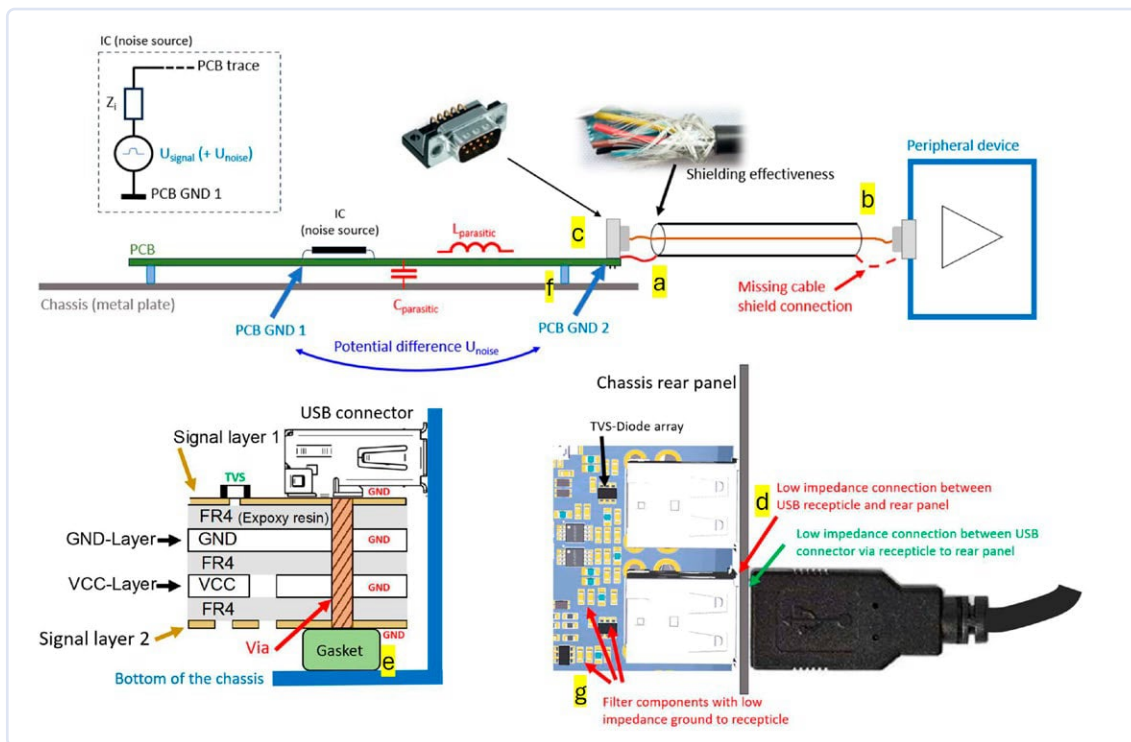

Figure 5: Illustration of the main EMC tasks of an enclosure.
4. **Shielding:** The use of shields or screens around sensitive components or conductor paths can help to contain electromagnetic radiation and reduce interference (Figure 2 h). However, the overall concept of the housing, consisting of a metal enclosure with as few gaps and openings as possible, is the decisive factor. The highest possible shielding attenuation of the housing generally also guarantees an RF-compliant ground reference for the interface filters and the connected shielded peripheral cables (**Figure 5**).